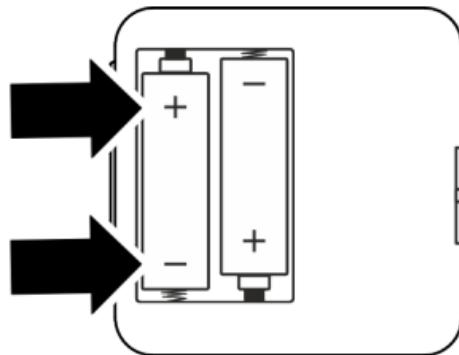

Fig. 5: Inserting the battery
6. Insert the two alkaline batteries of type 1.5 V AA LR6 into the housing cover, ensuring the correct polarity (Fig. 5).
8. Insert the two alkaline batteries of type 1.5 V AA LR6 into the housing cover, ensuring the correct polarity (Fig. 5).